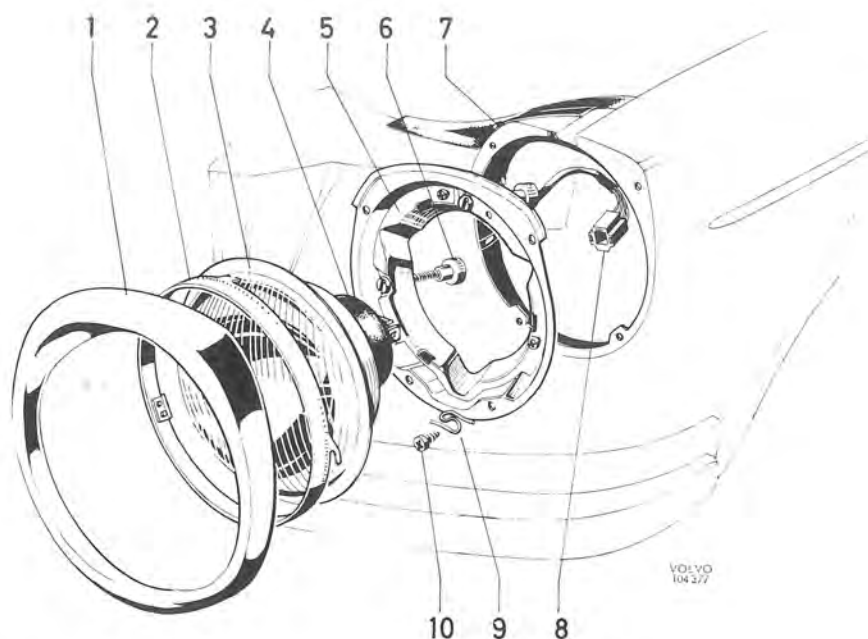

Fig. 3-71. Headlight
7. Adjust the light according to current legislation. Adjustment is made by means of the two adjusting screws, see Fig. 3-71. Use approved light adjusting equipment.
6. Check the lighting adjustment. This is done by means of the two adjusting screws, see Fig. 3-71.